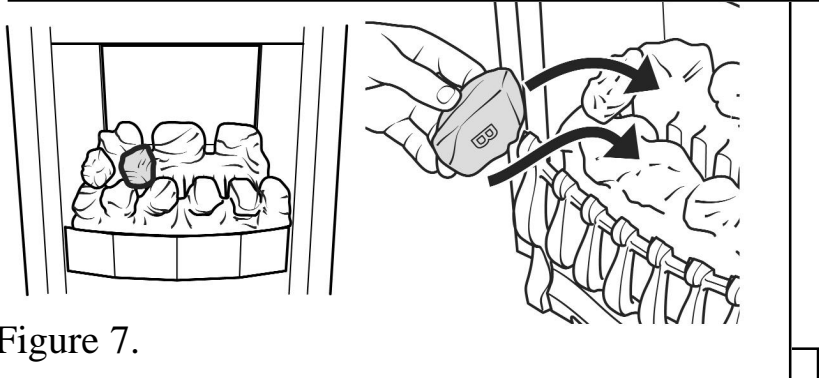

Figure 7.
4. Place a type “B” coal between the front and rear base coals as shown in figure 7. The letter “B” should be upright.